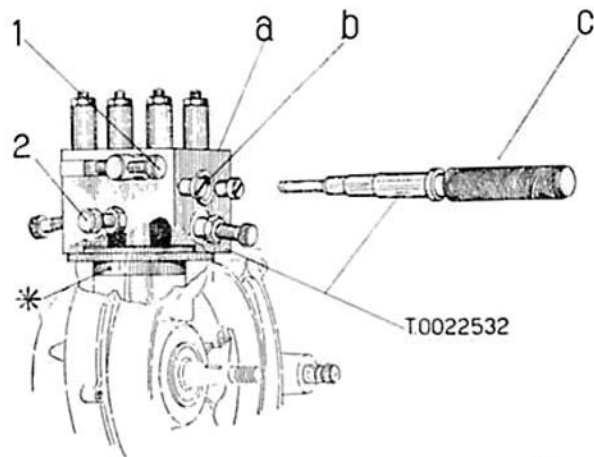

Fig. 84.
1. Centralize and lock the con. rod as said underneath by means of fixture T. 0022532 shown in Fig. 84.
Centralize and lock the con. rod by means of tool T. 0021175 provided with the new part No. 27 in place of part No. 11 marked with an asterisk in Fig. 84. Besides that, use new part, T. 0021175/22 in place of part "a" of Fig. 84, taking however all screws and other small parts from the latter.